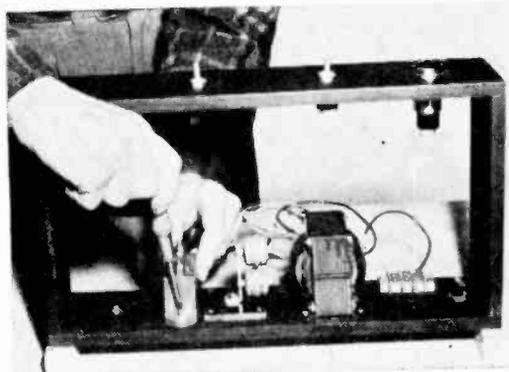

Fig. 19: Mount the major electrical components to the side of the base, before starting the wiring.
**Assembling The Unit:** The Bakelite panel requires a number of holes and openings, the largest one being to clear the plate transformer terminals. Cut this out on a jig or band saw. (A saber saw is shown in use in Fig. 22.) Before attaching the top panel, mount some of the parts to the sides of the base as in Fig. 19, where the filament transformer, capacitor support, .003 mfd. mica capacitor and line terminal strip are shown. The parts that come through the sides are also seen in place. A few of the connections can also be made at this time as illustrated in Fig. 20. A three-wire line cord and plug